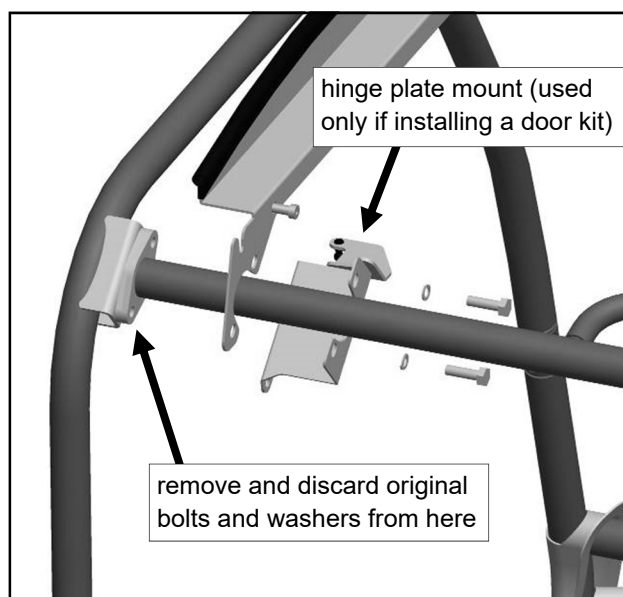

Fig. 1.3 (view of inside rear corner of driver's side)
1.3 If not installing a door kit, you will not have the hinge plate mount. If installing a door kit at this time, orient and install the hinge plate mount from the door kit as shown in figure 1.3. Fasten the rear of the upper mount using the new bolts (M10 x 1.25 x 35mm long) and split spring washers (M10). Use caution to avoid cross threading the weldnuts. Start thread engagement by hand.